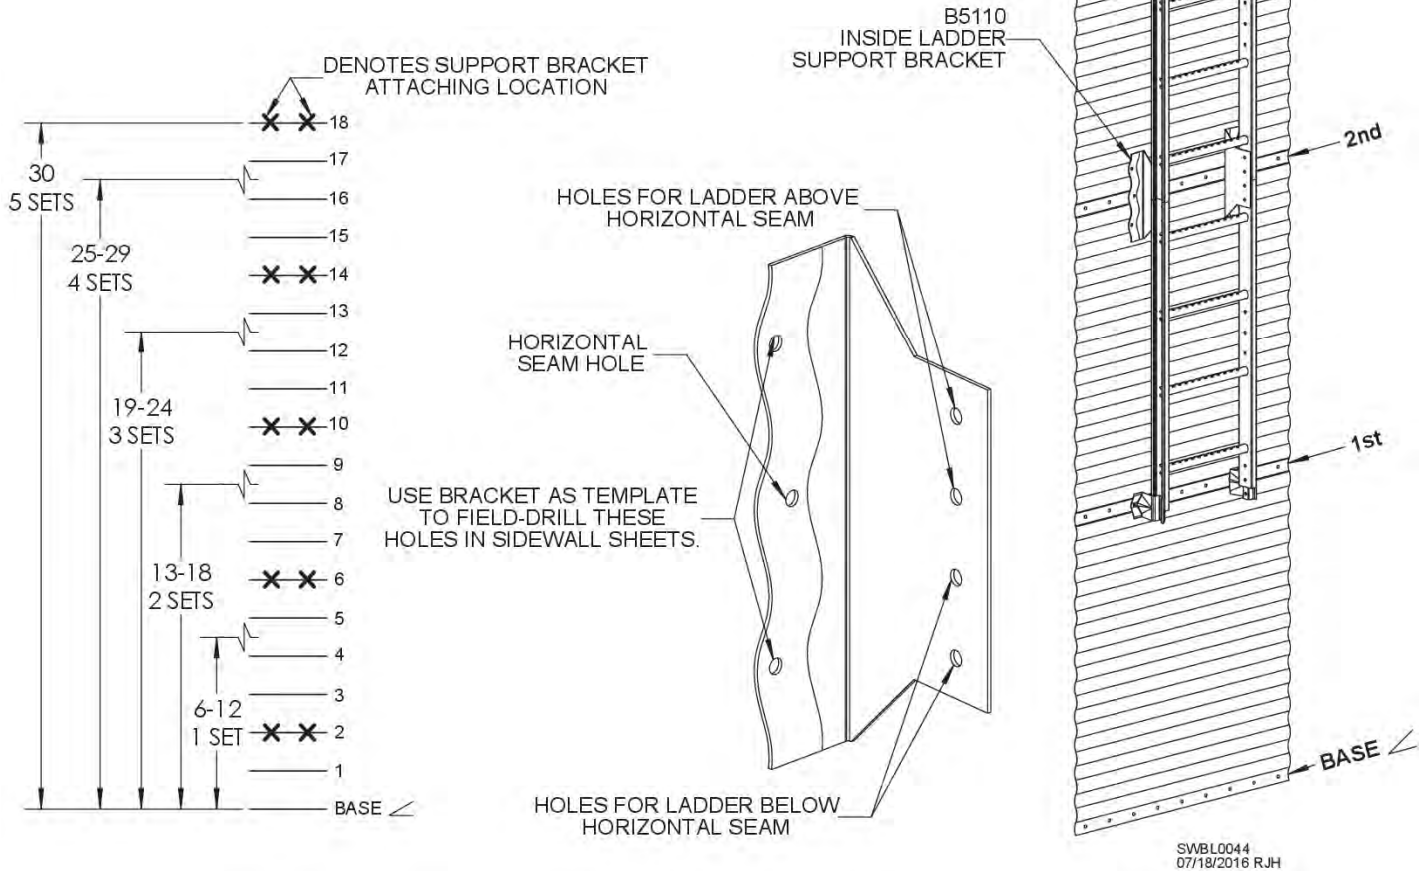

Fig. 3
***Location determined by counting seams from bottom as shown in Fig. 3. Do not count base angle seam.**
Install brackets at ladder splice, using existing horizontal seam bolt in middle hole of support bracket. Field-drill one hole above and one hole below horizontal seam as shown in Fig. 3 and secure with 3/8" hardware. Bolts should be inserted from outside of bin. Attach brackets to inside of ladder rails as shown, using holes provided and 3/8" hardware. **TIP:** It may help to mark on supplied color chart the locations of these additional ladder support brackets.